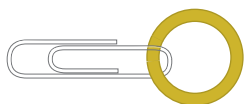

FIG. 1
1. Close 1 jump ring and open the rest. Thread the closed jump ring onto a starting aid (**FIG. 1**).